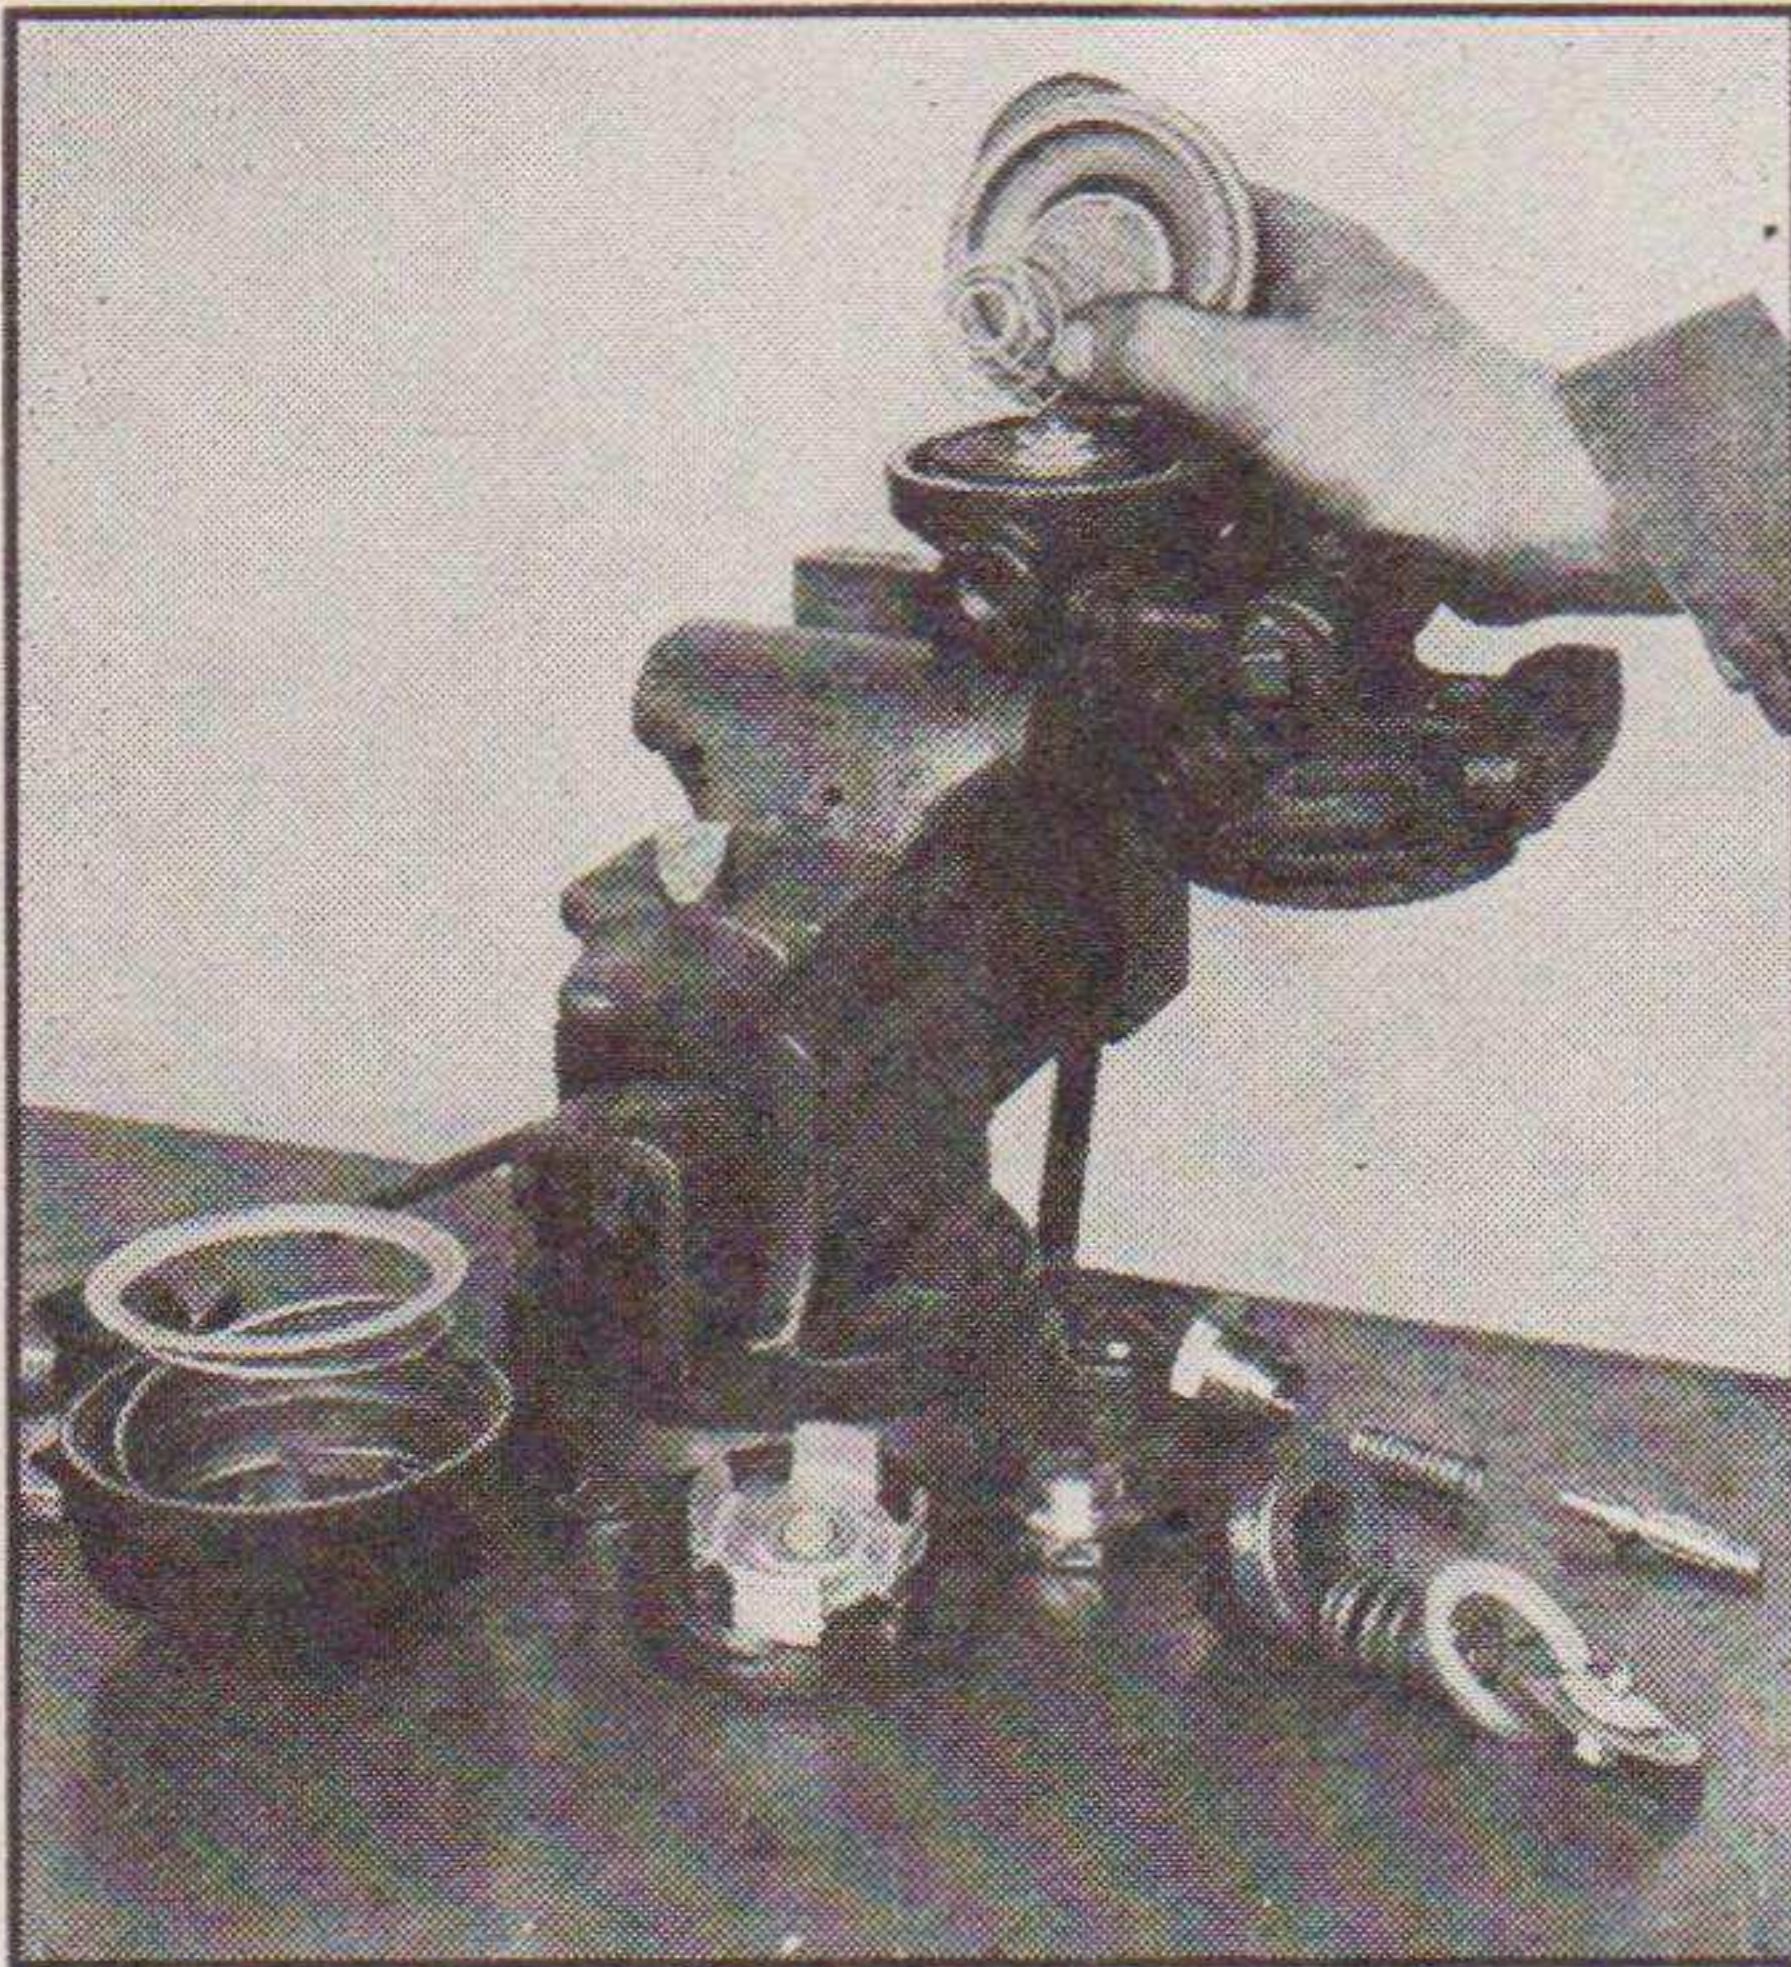

FIGURE 26. LIFTING OUT SPRING AND STRAINER
(2) Lift out spring and strainer. (Figure 26.)